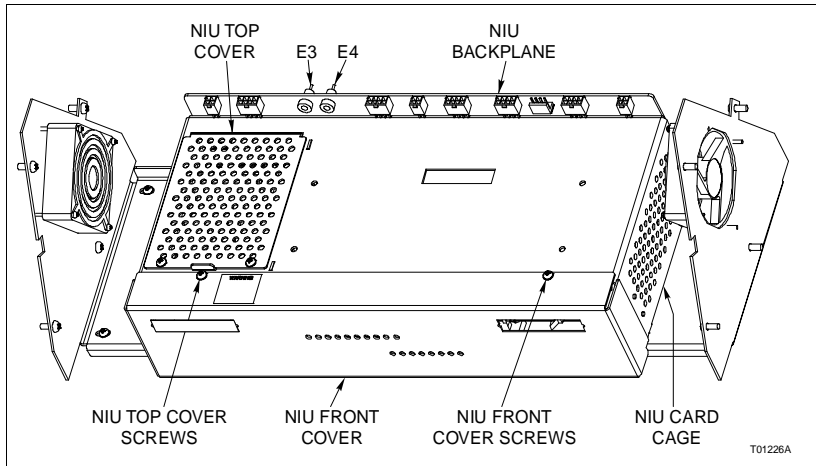

Figure PR57-1. NIU Card Cage with Covers Installed
3. Use the Phillips head screwdriver to remove the two NIU front cover screws (Fig. PR57-1).